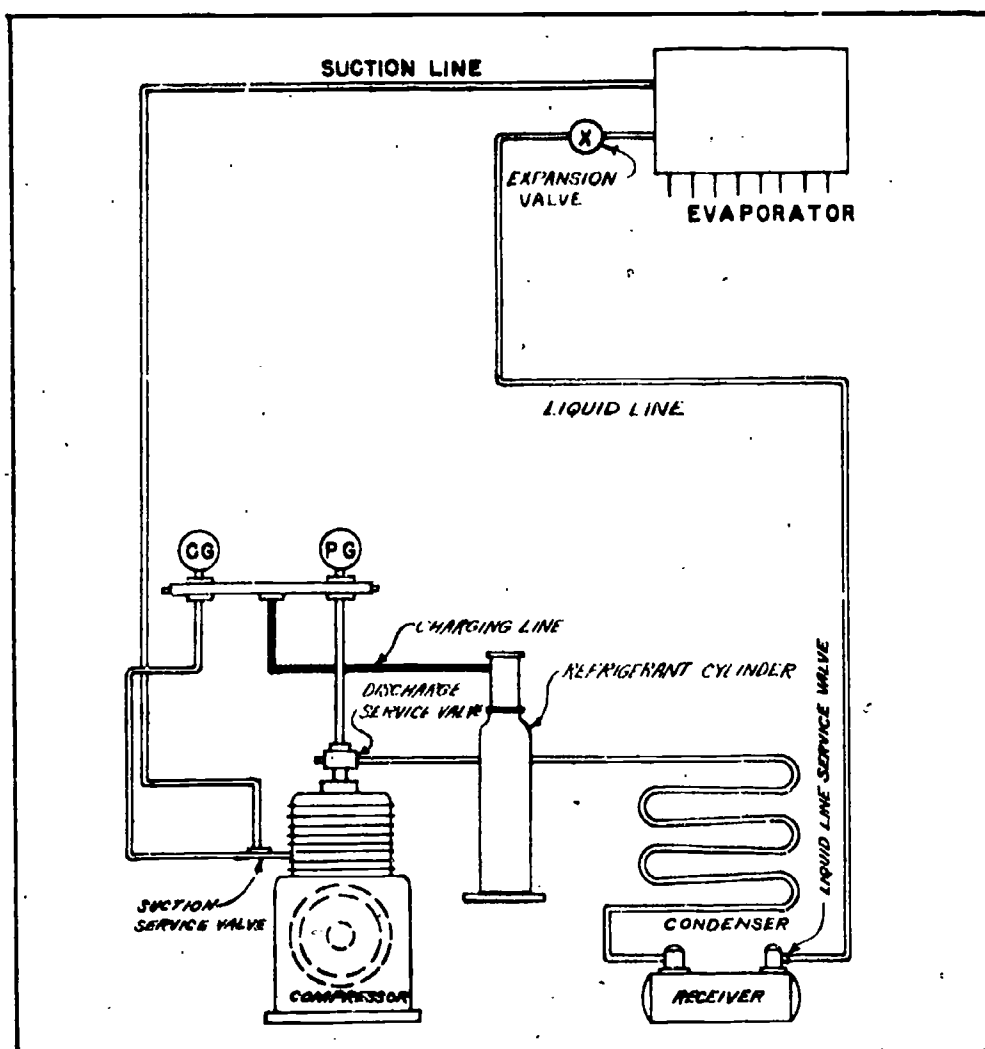

Fig 3-16. Low-side charging.
(1) Low-side charging (fig 3-16). For low-side charging, proceed as follows: